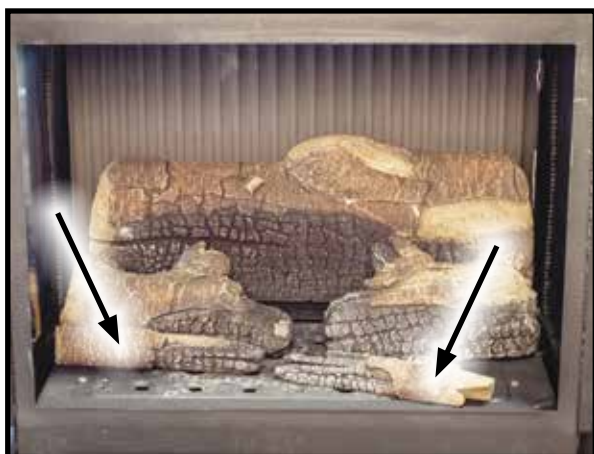

Figure 52. Log #2 & #3 Placement
3. Place Log #3 in front of Log #5 on the left, and Log #2 in front of Log #6 on the right. Line up the bottom holes with the pins on the burner pan (Figure 52).